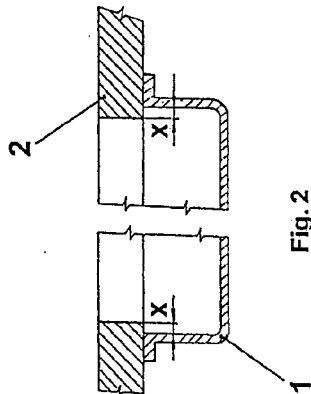
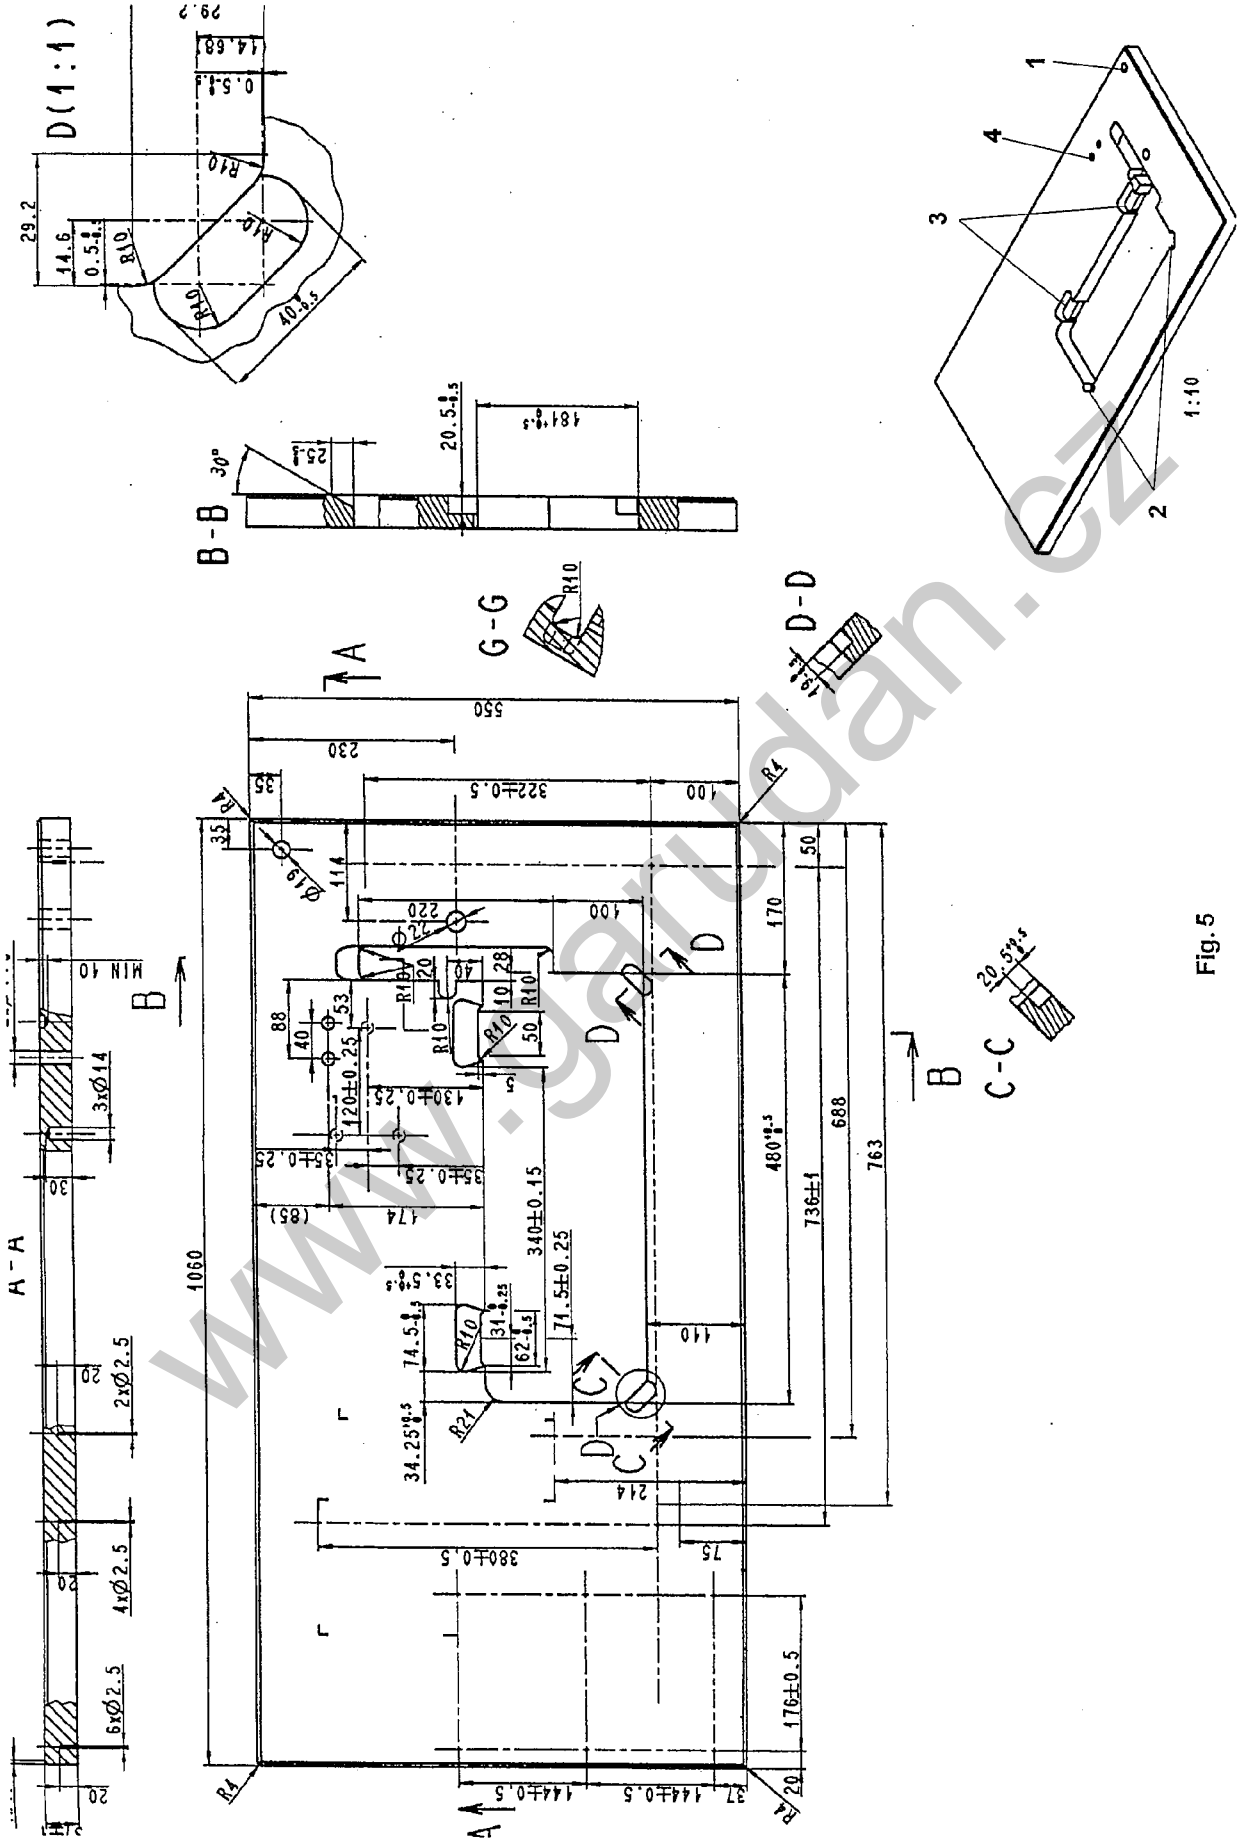

Fig. 2
Fig. 5
Insert into the recesses (2 and 3, Fig. 5) the rubber inlays serving for mounting the machine head into the stand plate, and preferably fix them by sticking them on. When mounting the oil tank (1, Fig. 2) be sure that the inner side of its walls is overlapped by the value "X" by the circumference of the slot of the stand plate (2).
The machine head is fitted with installed hinges. Remove the lower covering sheet of the head and insert the machine into the stand plate. Insert into the hole (4, Fig. 5) the support pin included in the machine accessories.
Inspect the machine thoroughly and check whether it revolves freely and is adjusted correctly. Mount the bobbin stand as shown in Fig. 6 and insert it into the hole (1) - see Fig. 5.